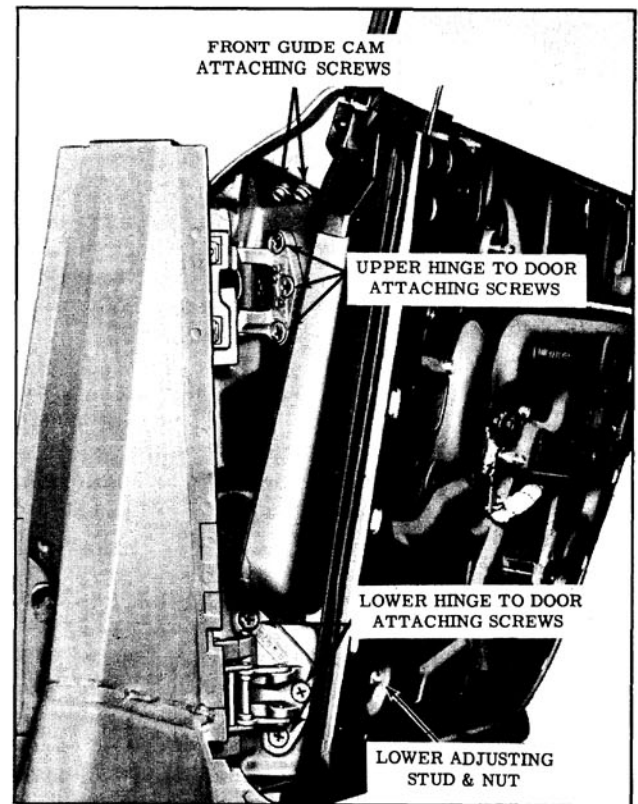

Fig. 16-59 Rear Door to Hinge Attachment
1. For in and out or up and down adjustment, loosen hinge to door pillar attaching screws, adjust door as required and tighten screws. (Fig. 16-59)